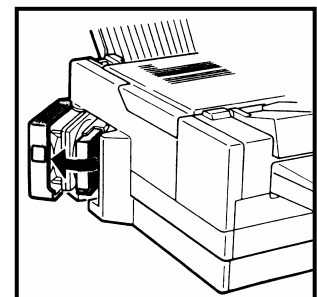

Figure 4
- b. Open the fan cover located on the left side of the printer (Fig. 4).